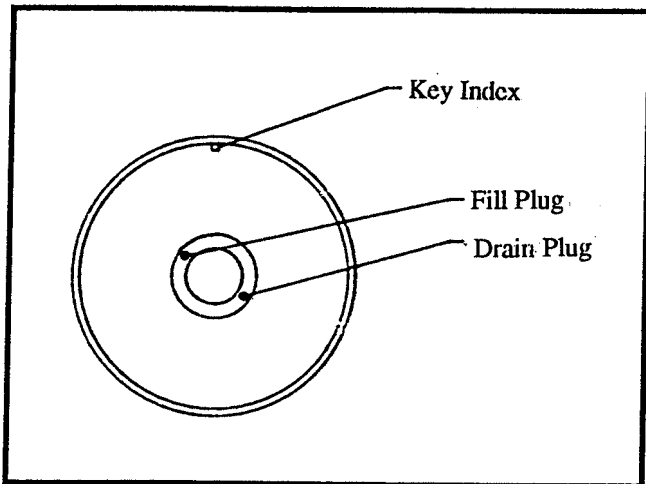

Figure 12-13. Carrier Plugs
3. To change the oil, remove the fill and drain plug. Allow the oil to completely drain. Be careful, hot oil or components can burn. Refer to Figure 12-13.